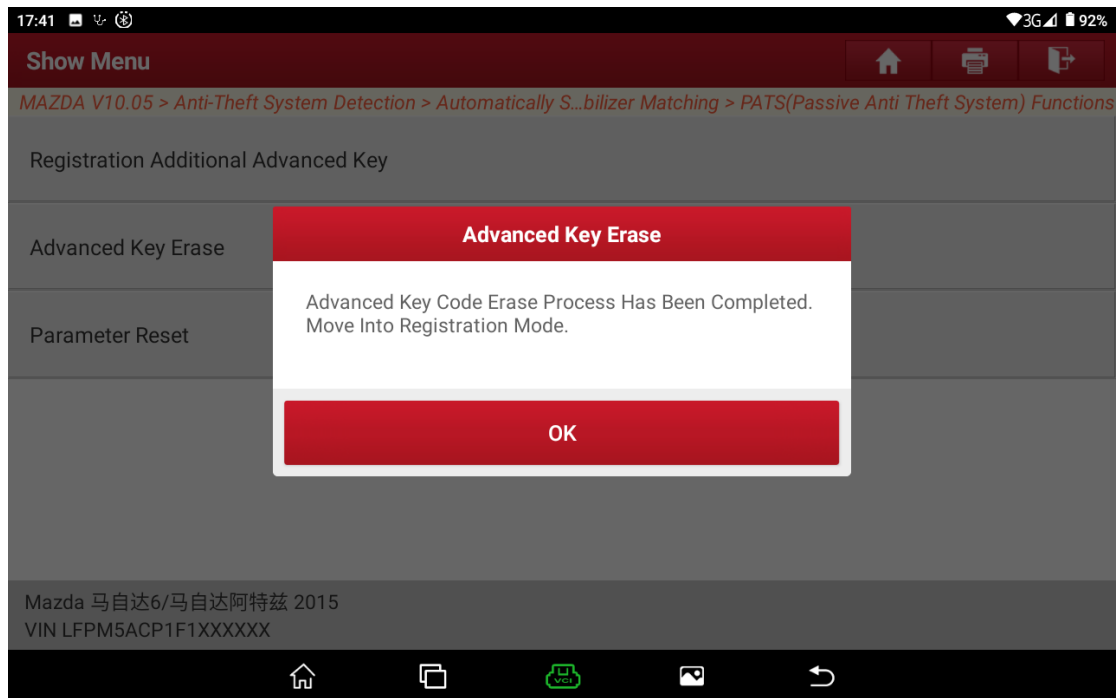

Figure 17
15. After erasing is complete, perform key registration. See Figure 17.
15. Wait for 5s. See Figure 17.